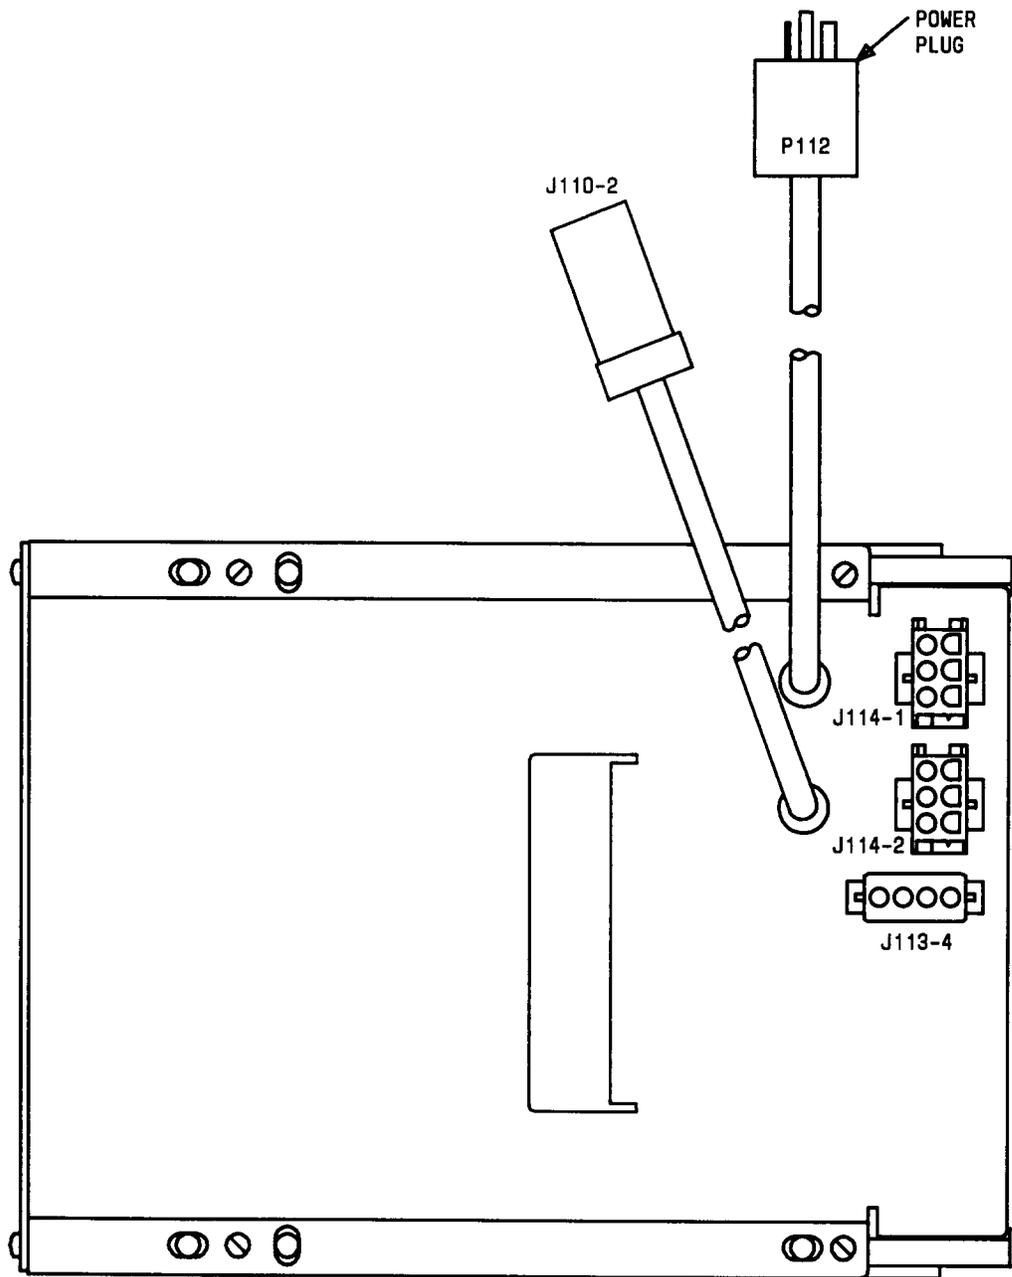

Fig. 1—Power Shelf AC Power Plug
3. Verify that ac power cord jack (J112) is connected to power shelf ac power plug (P112) (Figure 1).